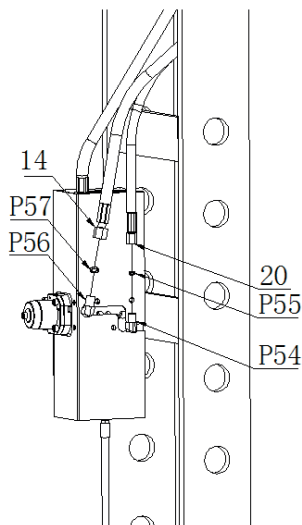

fig.8
6. Assembling the O-ring(P55)to Bend Connector(P54), then Wring the Oil hose (20) to the Bend connector(P54), and tighten it. (Refer to Fig.8)